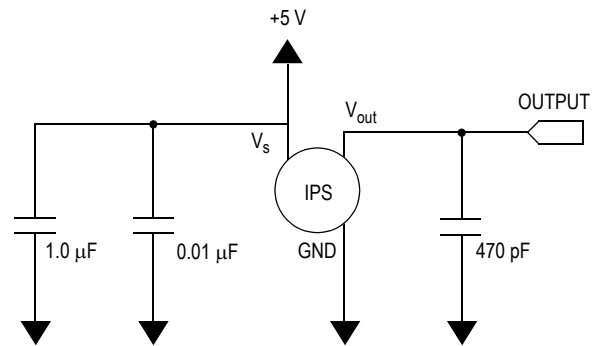

Figure 3. Recommended Power Supply Decoupling and Output Filtering
**Table 2. Operating Characteristics** ( $V_S = 5.0$  Vdc,  $T_A = 25^\circ\text{C}$  unless otherwise noted,  $P1 > P2$ . Decoupling circuit shown in Figure 3 required to meet specification.)
Figure 3 shows the recommended decoupling circuit for interfacing the integrated sensor to the A/D input of a microprocessor or microcontroller. Proper decoupling of the power supply is recommended.
Figure 4 shows the sensor output signal relative to pressure input. Typical, minimum, and maximum output curves are shown for operation over a temperature range of 0° to 85°C using the decoupling circuit shown in Figure 3. The output will saturate outside of the specified pressure range.